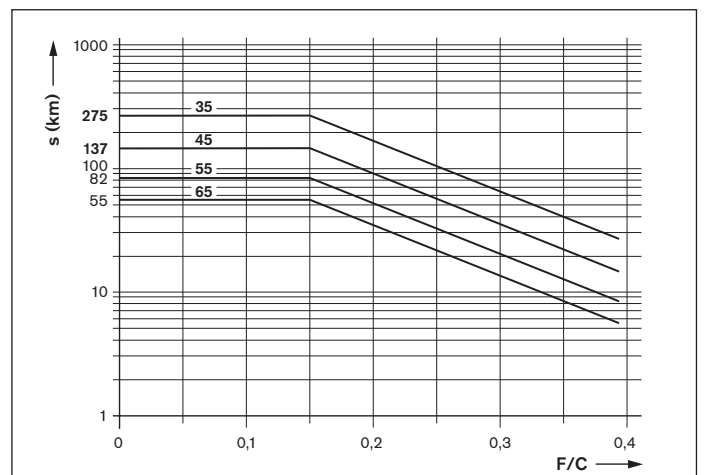

Fig. 3: Relubrication interval
- s = relubrication interval according to Fig. 3 (km)
- C = dynamic load capacity (N)
- F = equivalent dynamic load (N)